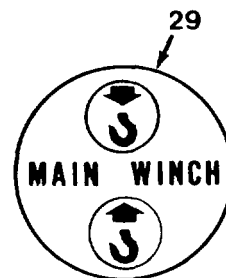

Figure 4-10. Winch Lever
29. **Winch Lever** lowers or raises load: push to lower load; pull to raise load (Figure 4-10).